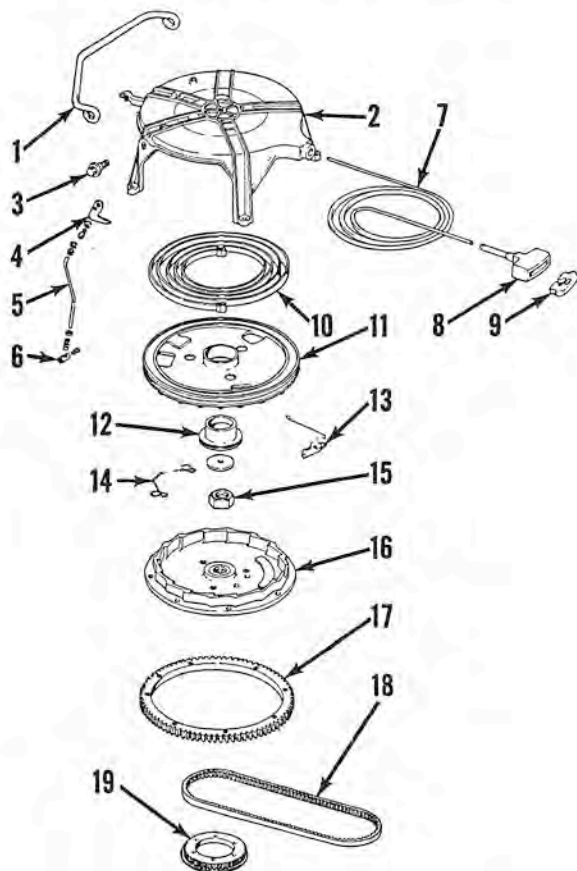

Fig. J106 — Exploded view of typical manual starter used on models not equipped with alternator.
Fig. J106 shows a starter typical of the one used. When installing a new starter cord or spring, invert the removed starter assembly in a vise and wind the spring by turning the starter pulley (11) counter-clockwise until spring is completely wound. Reverse the pulley approximately 1/2-turn until starter cord guide in housing (2) aligns with cord anchor in pulley. Thread the cord through pulley and housing and anchor in pulley with a suitable knot; then slowly